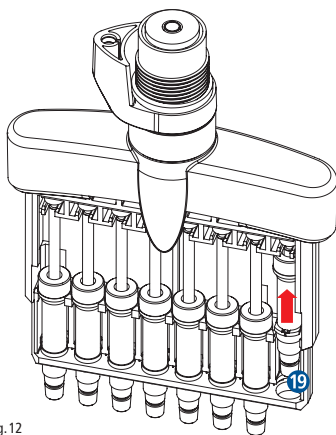
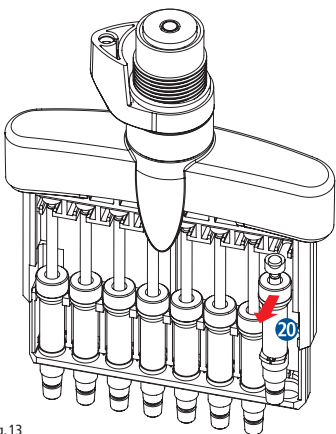

Fig. 12
Fig. 13
- The piston cylinder 19 is pushed up (Fig. 12) and the entire piston unit 20 can now easily be removed from the front (Fig. 13) and cleaned externally using an alcoholic disinfectant. Re-lubricate the piston with original USA Scientific piston grease (see section 8 Ordering Information).